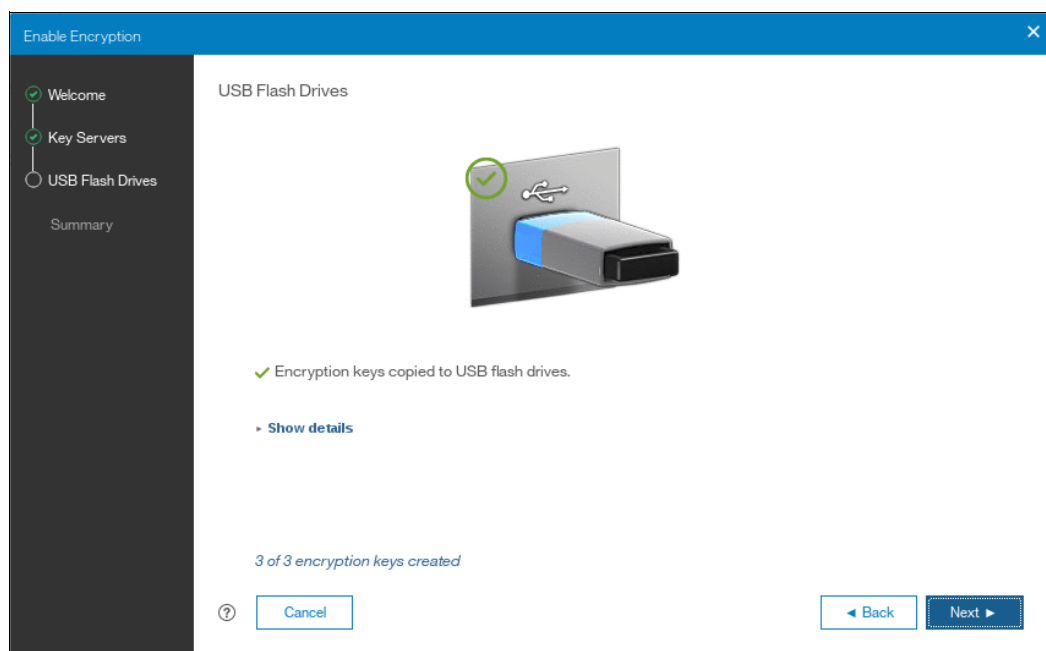

Figure 13-48 Master Access Key successfully copied to USB flash drives
10. Once at least three USB flash drives are detected, the system will write master access key to each of the drives. Note that the system will attempt to write the encryption key to any flash drive it detects. Therefore, it is crucial to maintain physical security of the system during this procedure. Once the keys are successfully copied to at least three USB flash drives, the system will display a screen as shown in Figure 13-48.